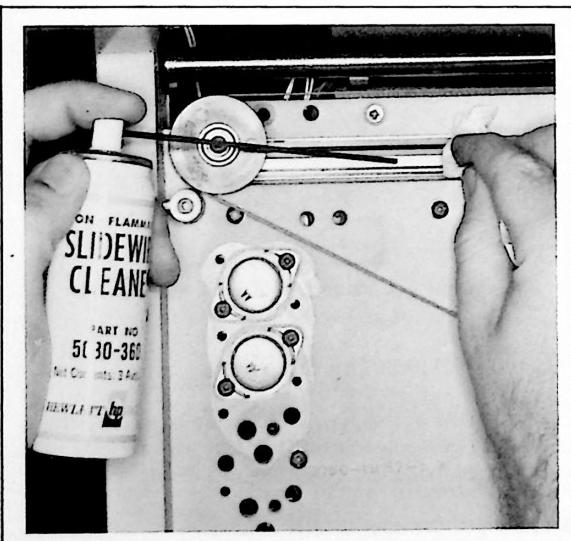

Figure 5-1. Potentiometer Cleaning
- c. Lift pen holder up. Raise pen scale. Slidewire is accessible. See Figure 5-1.
- e. Thoroughly saturate a Kimwipe or cotton swab with cleaner. Rub potentiometer along entire length using tissue or swab. See Figure 5-1.